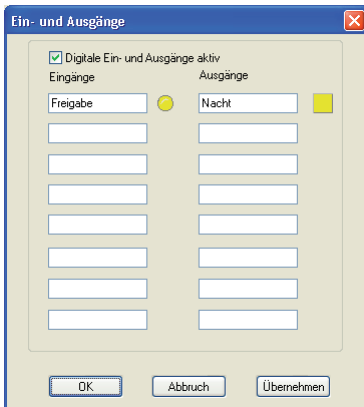

Fig. 4.7: Configuring the crossbar switch (TopView Standard only)
- Go to Configuration/Inputs and Outputs... (see Fig. 4.7).